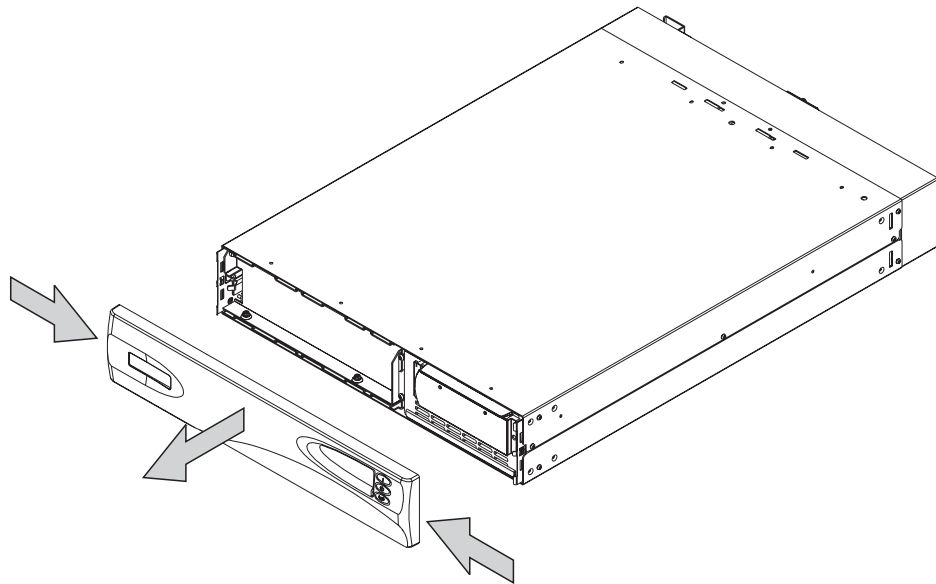

Figure 63. Removing the front panel of the uninterruptible power supply 5125
3. Remove the front panel by pressing the sides inward, and pulling on both ends towards you. See Figure 63 on page 193.